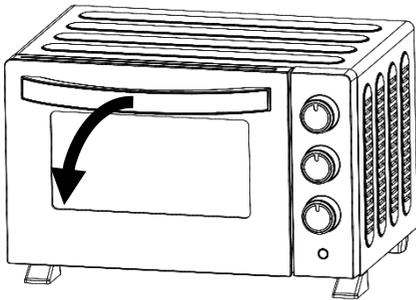

Fig. 5
- How to open and close the door – see figs. 5 -7
8. Open the oven door (Fig. 5 & 6) and place the food into the oven using the grill rack and / or baking tray.